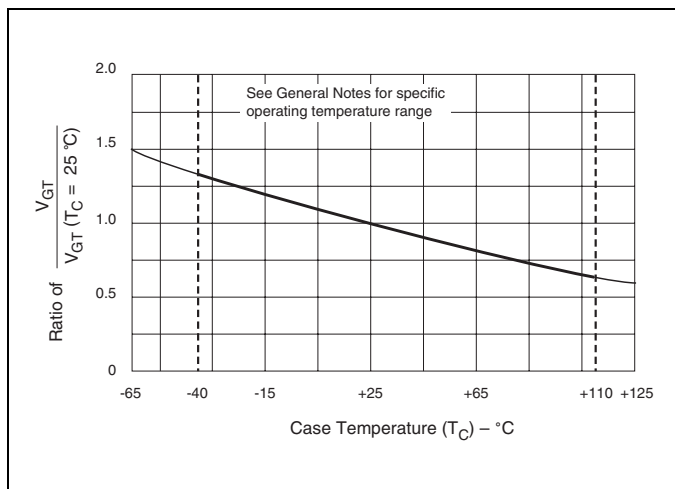

Figure E5.12 Normalized DC Gate-Trigger Voltage versus Case Temperature
- See Figure E5.12 for V_{GT} versus T_C or T_L .